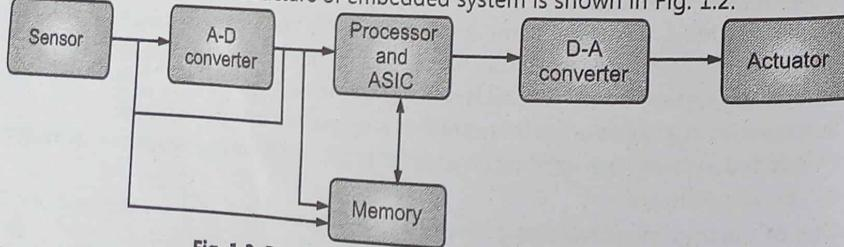

Fig. 1.2: Basic structure of Embedded system
- The illustration of basic structure of embedded system is shown in Fig. 1.2.
- As shown in Fig. 1.2, embedded system consists of sensor, ADC (Analog to Digital Converter), processor, DAC (Digital to Analog Converter), actuators, memory etc.